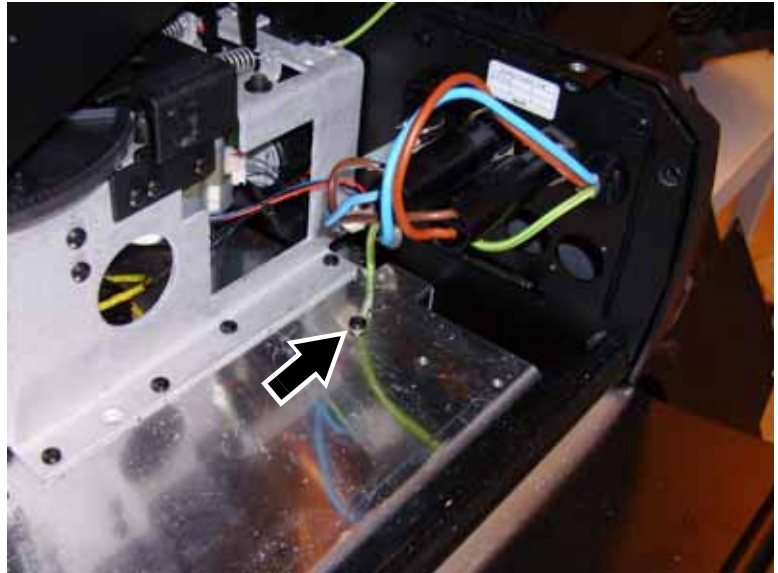

Figure 19
21. When you have completed step 20, the fixture should look as shown in Figure 19 with the relocated mains input cable ground lead (arrowed) fastened to the base plate and trailing back towards the XLR connectors.